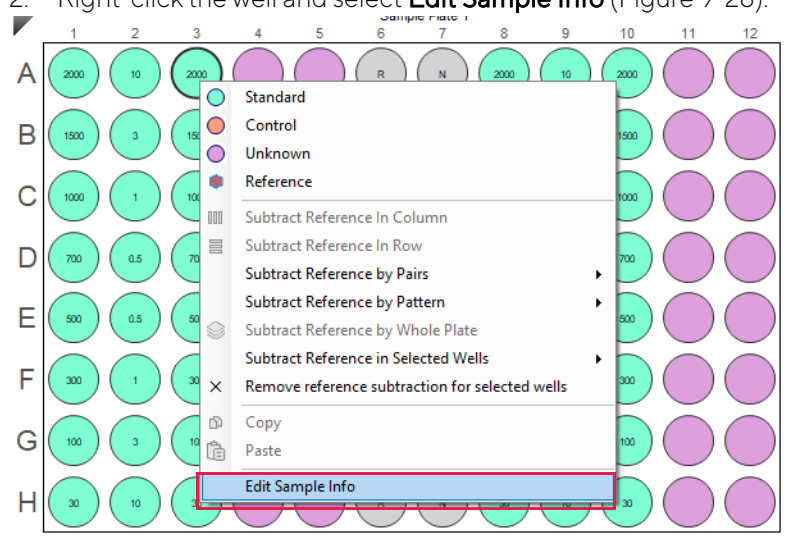

Figure 9-28: Selecting Edit Sample Info
2. Right-click the well and select **Edit Sample Info** (Figure 9-28).